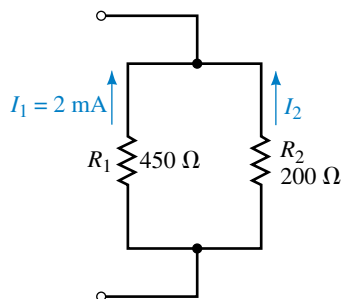

FIGURE 6-63
17. Refer to the network of Figure 6-63: